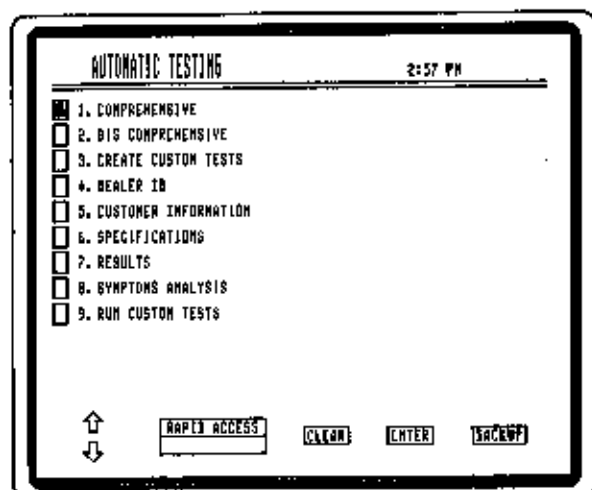

Figure 96
2. Select the appropriate Comprehensive test (see Figure 96). Press: